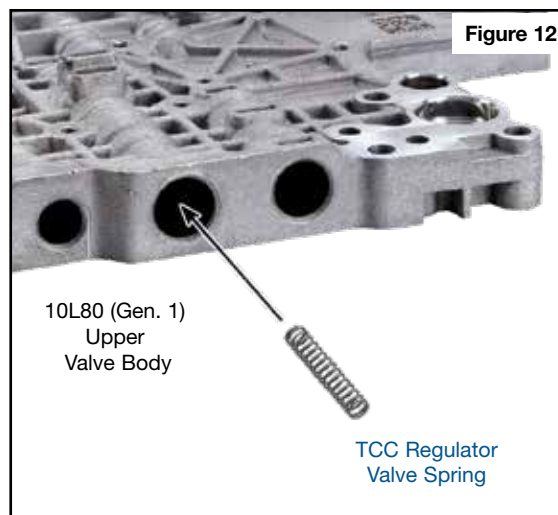

Figure 12
- Install Sonnax spring (**Figure 12**).